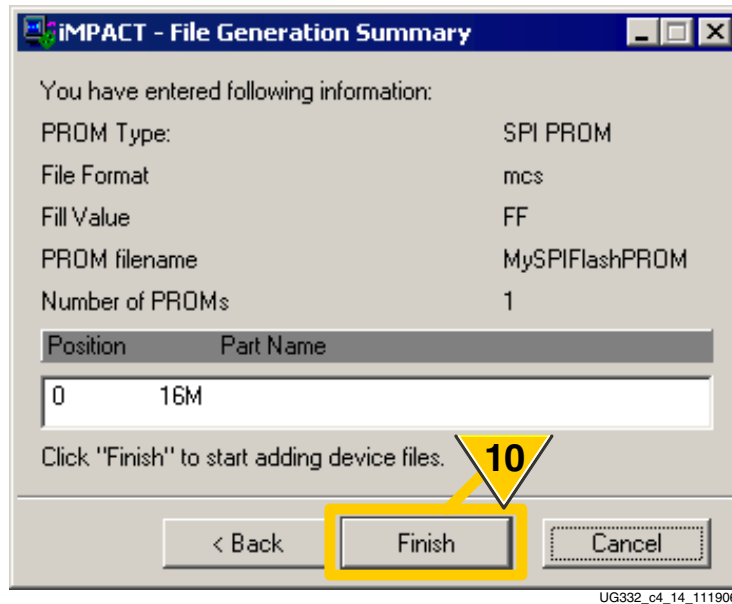

Figure 4-13: Review PROM Formatting Settings
- As shown in Figure 4-13, review that the settings are correct to format the SPI PROM. Click **Finish** to confirm the settings or **Back** to change the settings.